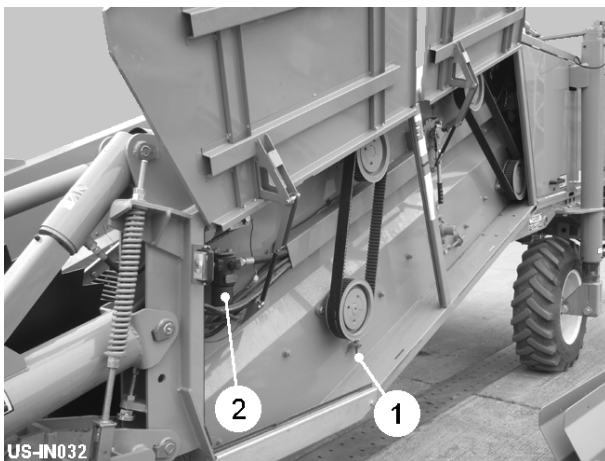
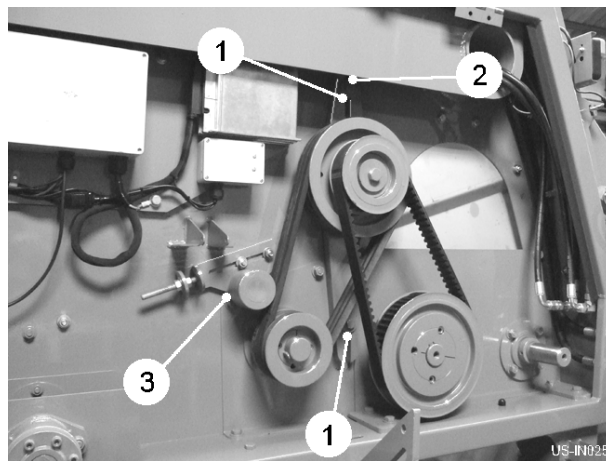

Fig 17
Fig 18
The toothed drive belts have adjusters (item 1, fig 17). As a guide, correct belt tension is achieved when, at a distance half way between the pulleys, the belt can be twisted no more than 45° longitudinally. To set the boulder box belt tension (if fitted), firstly set the toothed belt tension by loosening the fixing bolts (item 1, fig 18) and adjusting the tensioner bolt (item 2, fig 18). Finally, adjust the 'V' belt tensioner (item 3, fig 18). Set the 'V' belts tight enough to give a positive drive without undue stretching.
A pressure filter (item 2, fig 17) is mounted in the supply line from the tractor. The element should be replaced after the first 50 hours of running time and then annually or every 500 hours thereafter.